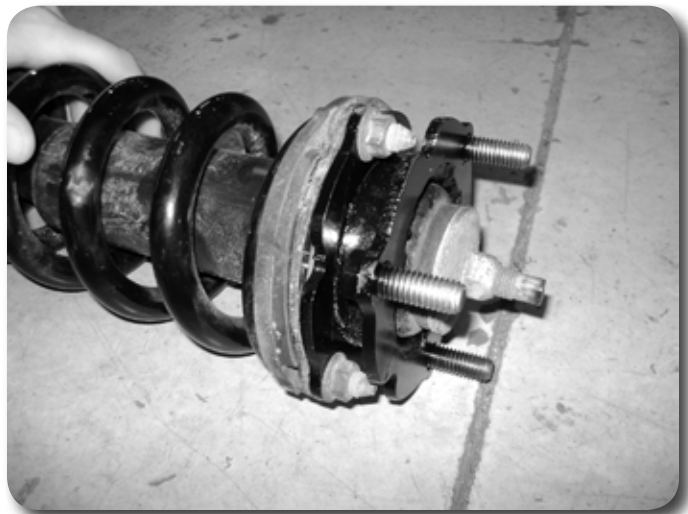

Figure 5
9. Locate one of the supplied strut spacers and install on the factory upper strut mount studs. Fasten with the original nuts and tighten securely (Approx. 45 ft-lbs). Figure 5